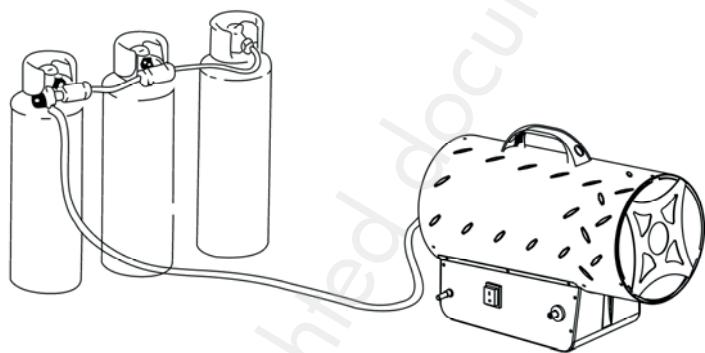

Figure 2
- If the heater has to work for a long period at its maximum capacity, it's possible that ice will form on the cylinder. This is due to excessive vapour withdrawal. Not for this reason, or for any other, should the cylinder be heated. To avoid this effect, or at least to reduce it, use a large cylinder or two cylinders linked together (figure 2).